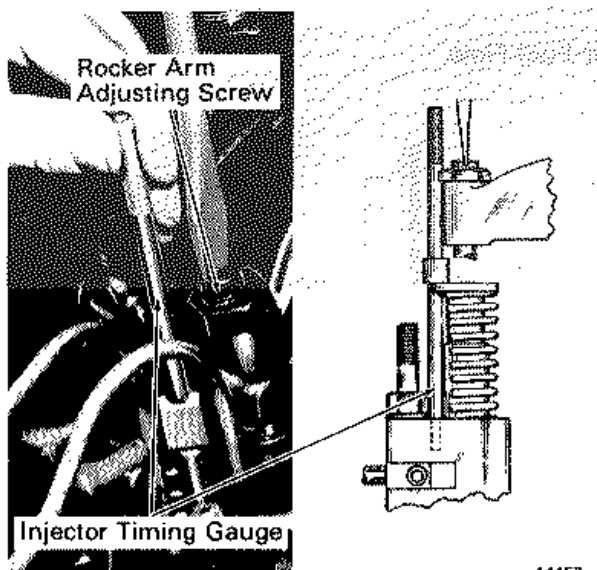

Fig. 11-6 - Timing Injector
2. Insert injector timing gauge into the hole provided for it in the injector body, Fig. 11-6.